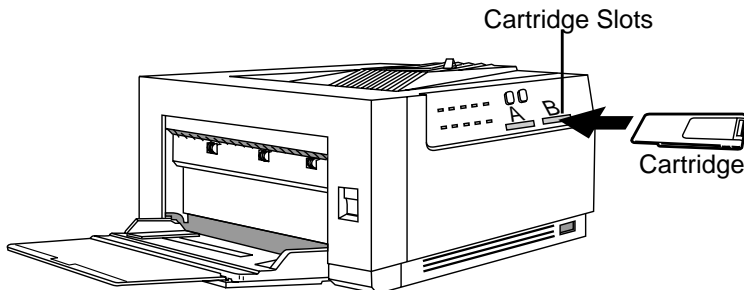

Fig. 4.11 Cartridge Slots
2. To insert a font card, slide it into either slot A or B (fig. 4.11) with the label side facing up. You should hear the card snap into place.
3. To insert an emulation card, slide the card only into slot B (fig. 4.11), label side facing up. You should hear the card snap into place.